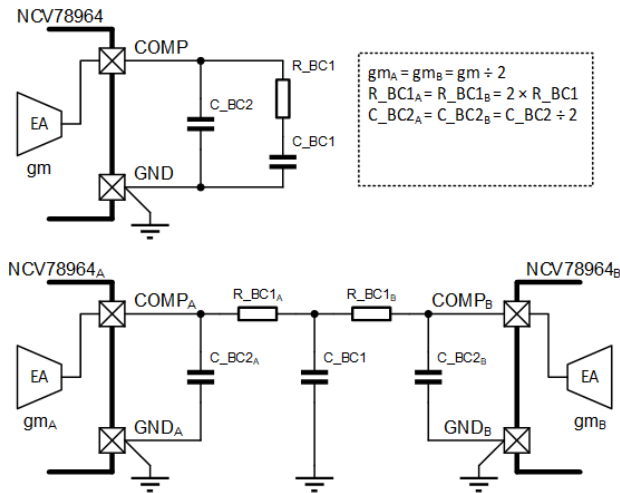

Figure 24. Compensation Network Connection for Single (Top) and Dual (Bottom) Device Operation
1. The compensation network is split between the two boosters’ COMP pins according to Figure 24, to equalize the power distribution of each booster. For the best noise rejection, the compensation network area has to be surrounded by the GND plane. Please refer to the PCB Layout Recommendations section for more general advices.